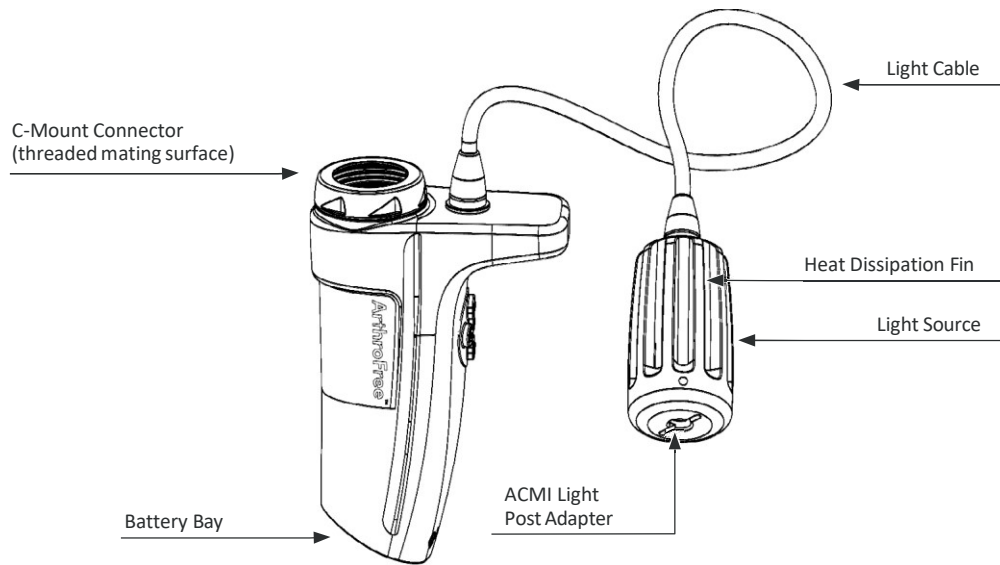

FIGURE 10: Proper Orientation of the Camera Head for Decontamination and Cleaning
- a. Decontaminate the Camera Head by positioning the device with the battery bay facing down (see Figure 10). Use a soft bristle brush, non-linting cloth, or suitable alternative soaked in an enzymatic cleaner to gently scrub the exterior of the Camera Head. Pay close attention to threaded mating surfaces, the heat dissipation fins on the light source, or any areas where soil may have accumulated. If necessary, gently flush difficult-to-access or heavily soiled areas with additional enzymatic cleaner.